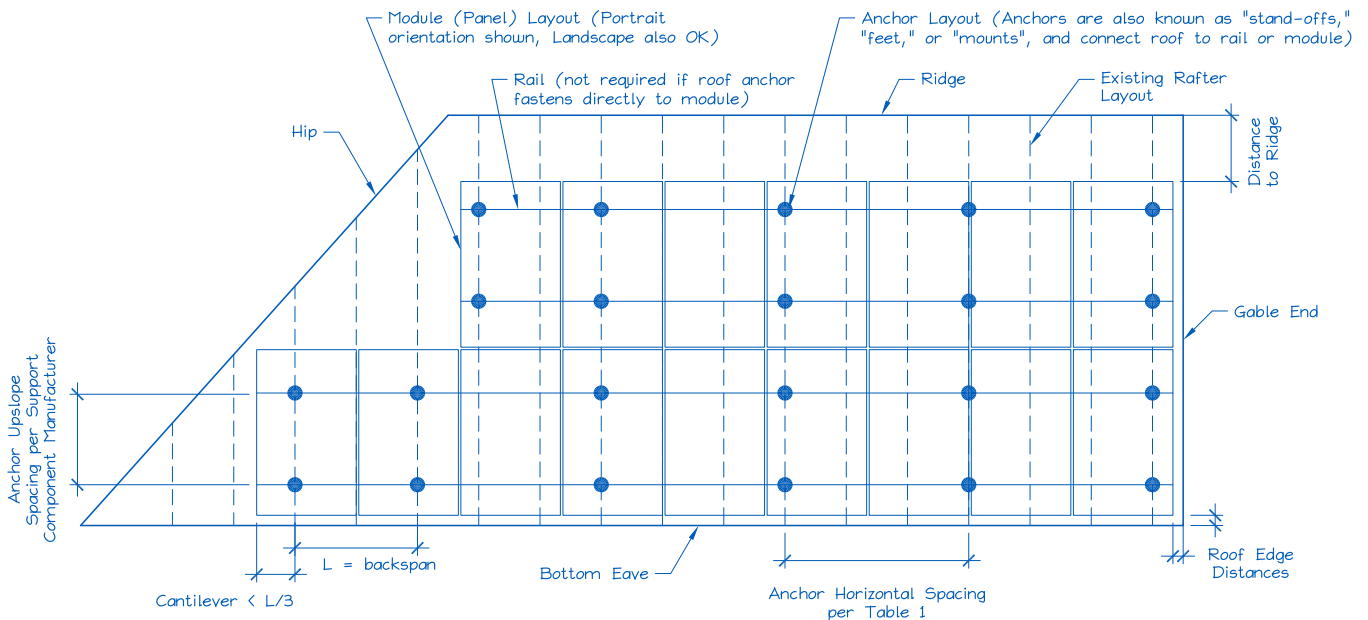

Figure 2. Sample Solar Panel Array and Anchor Layout Diagram (Roof Plan).
E. Is a roof plan of the module and anchor layout attached? (see Figure 2) Y N
- 1) Proposed anchor horizontal spacing (see Figure 2): _____' - _____"ft-in
1. Anchors are also known as “stand-offs”, “feet”, “mounts” or “points of attachment”. Horizontal anchor spacing is also known as “cross-slope” or “east-west” anchor spacing (see Figure 2).